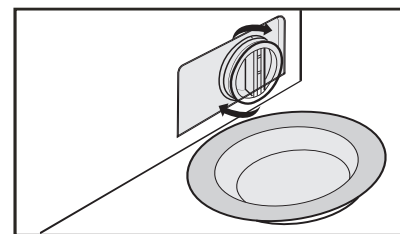

Fig. 16
3. Reinstall each part back after foreign matter is removed. (Fig. 16)